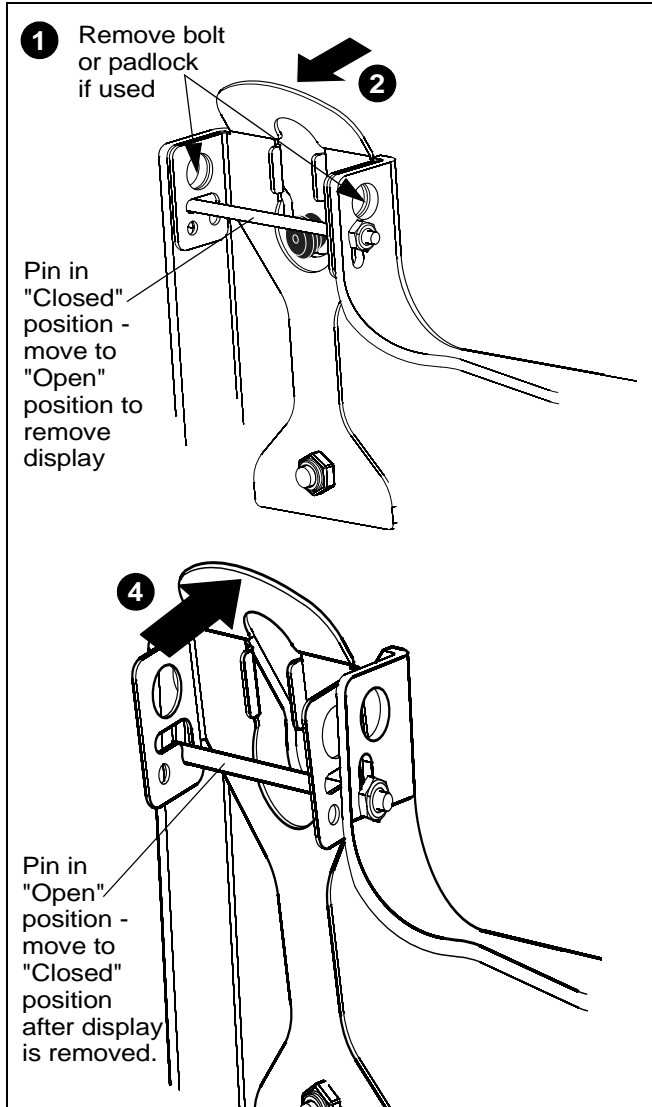

Figure 6
2. Pull back on flag on upper mounting hole and press pin down into "Open" position. (See Figure 6)
4. Lift up on pin and place flag back against faceplate to return it to "Closed" position. (See Figure 6)